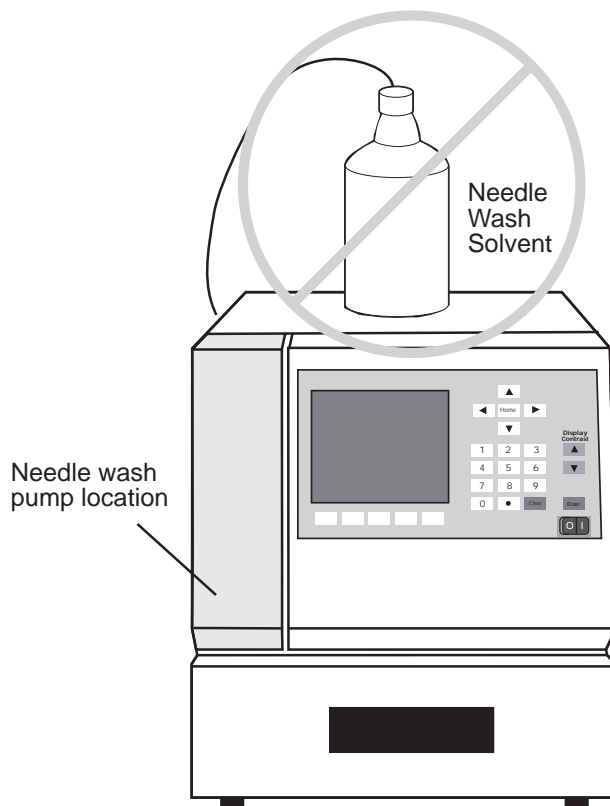

Figure 4-4 Improper Needle Wash Solvent Location
2. Place the green line in the needle wash solvent reservoir and place the reservoir on the same level as the autosampler (Figure 4-4).